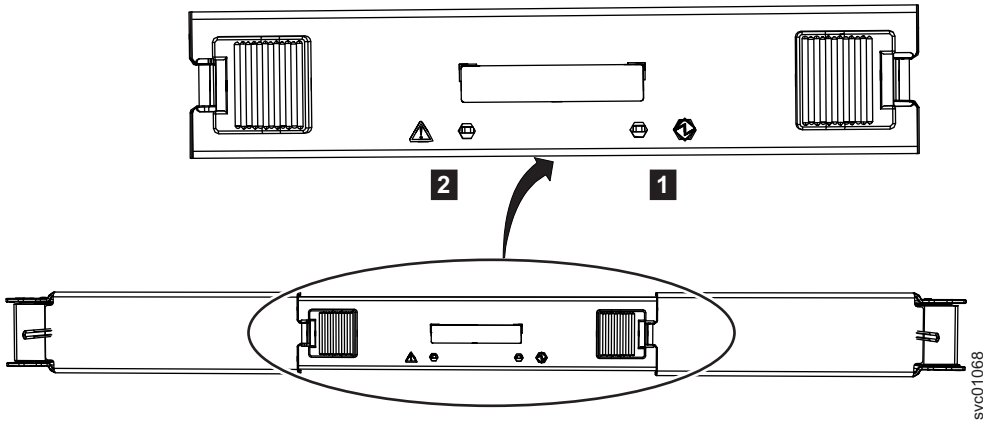

Figure 67. LEDs on a secondary expansion module
2. Identify the secondary expander module to be replaced; Figure 67 shows the LEDs on top of a secondary expansion module.